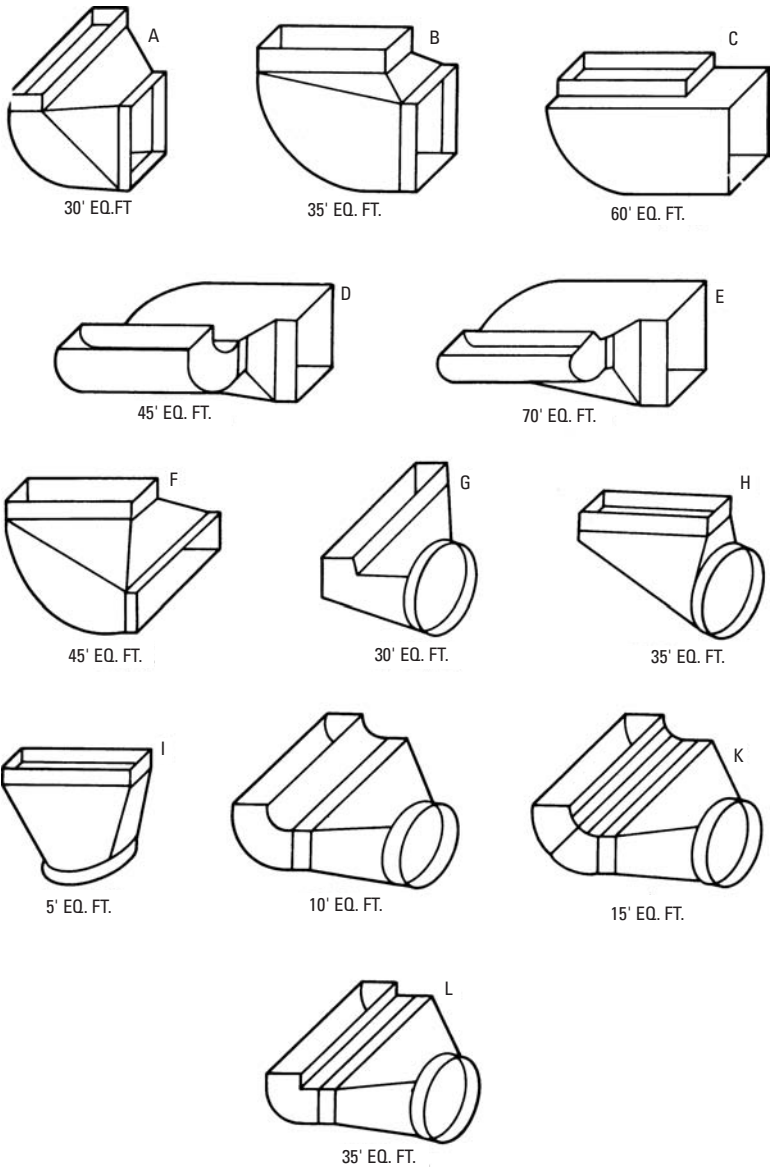

Figure 7-12 Boot fittings from branch to stack. (Courtesy ASHRAE 1952 Guide)
- Boot fittings (see Figures 7-12 and 7-13)